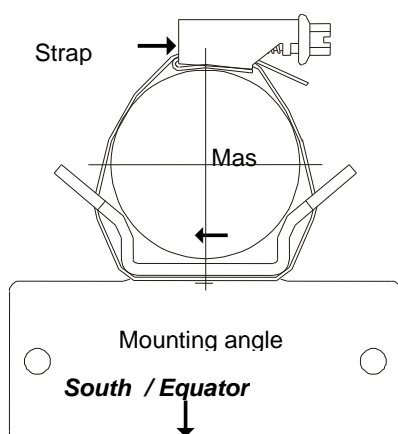

Figure 9: Strap, Mast, Mounting angle
First, the mounting angle (with or without housing) should be fastened at the mast. Because of the shading effect of the mast the angle is to be mounted at the highest possible place. Align the angle to the south acc. to **Figure 9** ($\pm 10^\circ$, Northern hemisphere), and fasten it at the top of the mast. It is advisable to have a second person holding the Laser Precipitation Monitor during the mounting. In case no second person is available, it is also possible to separate the mounting angle from the Laser Precipitation Monitor (2 nuts M6 below, 2 screws above [accessible after removing the housing cover]).
3. Put the free end of the prepared clamp around the mast and the mounting angle, and screw it on (**Figure 9**).